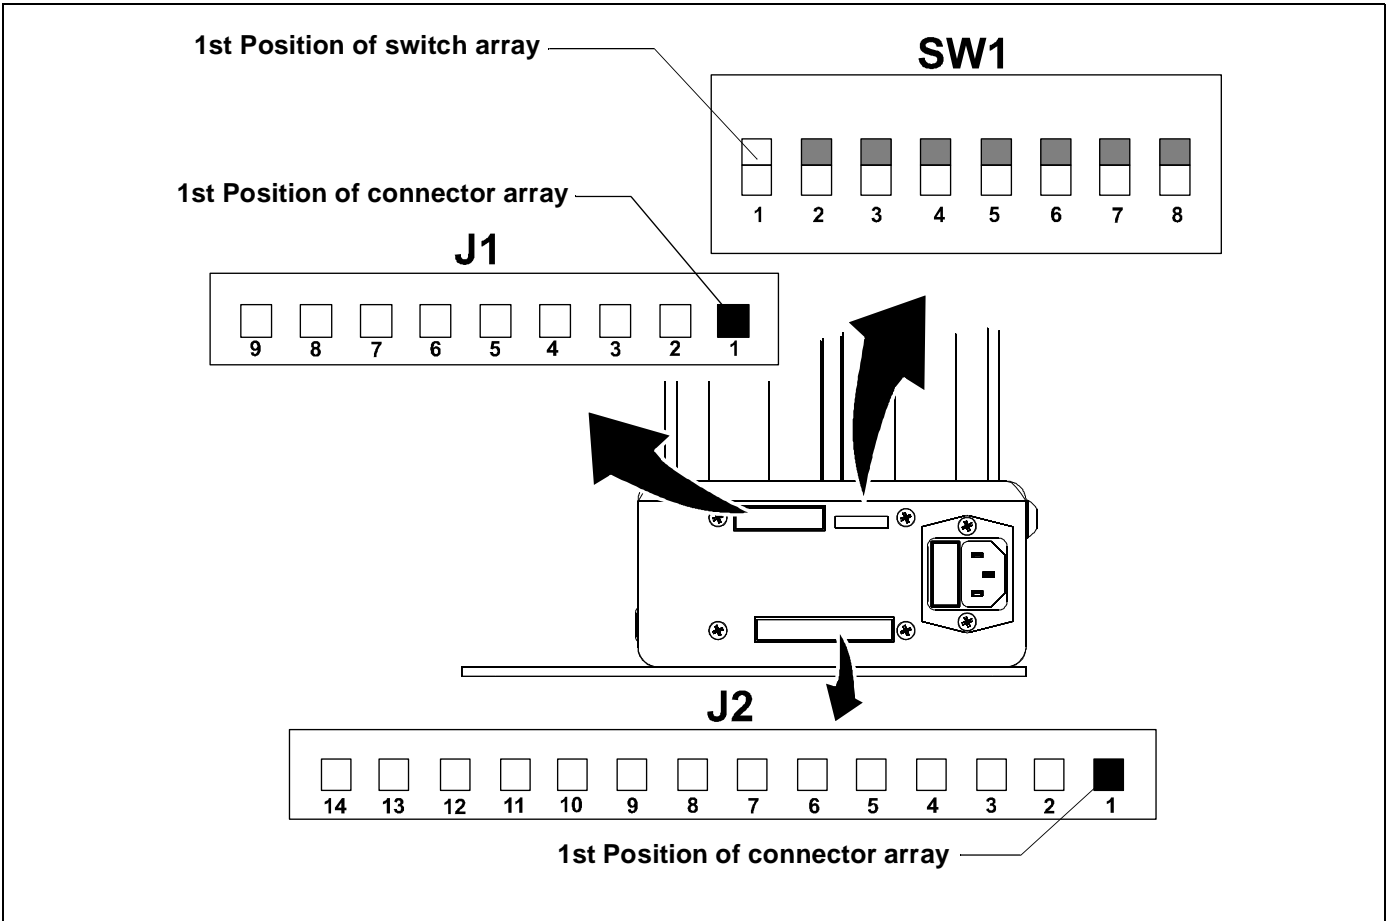
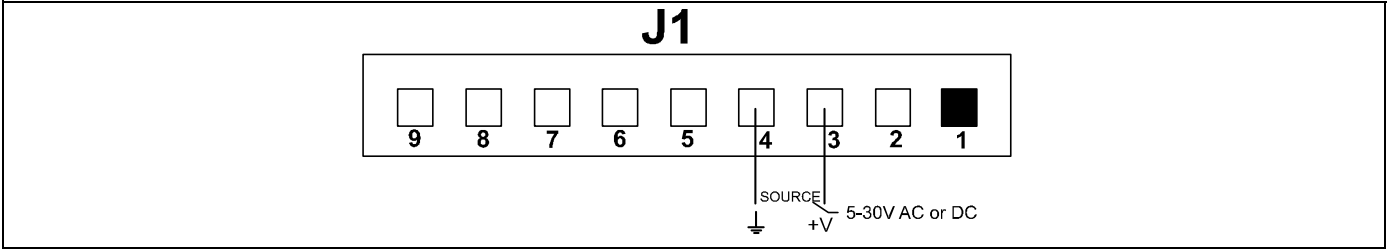
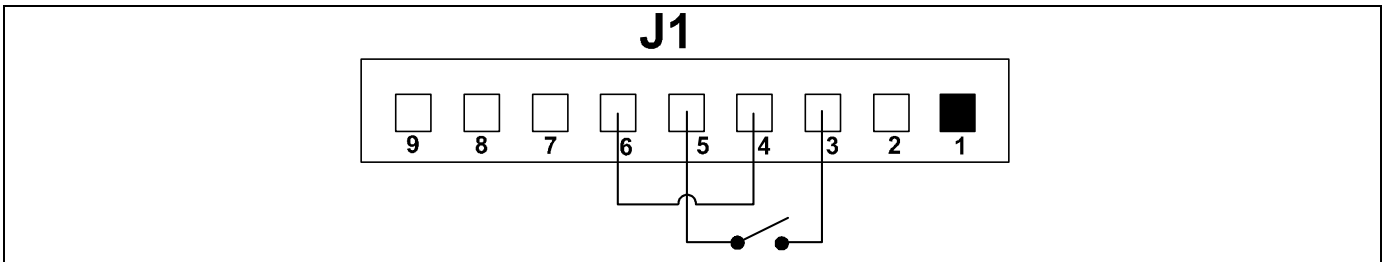
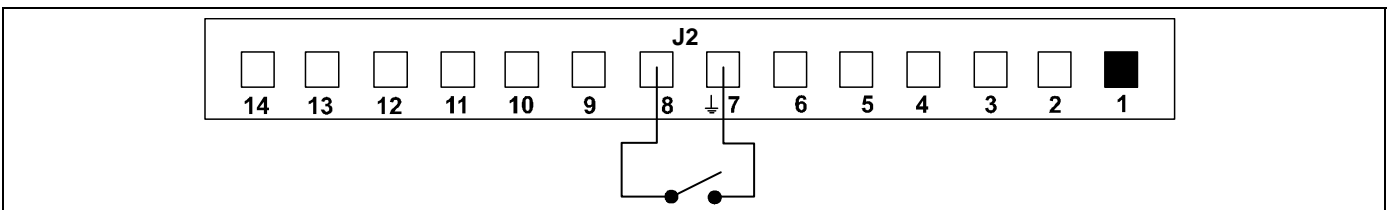

Figure 30
Figure 33
Figure 34
Figure 35
(See figure 30)
Using 9 pin Connector. (See figure 30) and (See figure 32)
Unit extends and stays extended when voltage from an external source is applied across pins 3 and 4 on connector J1. When voltage is removed unit retracts. (See figure 30) and (See figure 33)
**NOTE:** Using this input will force a complete UP/DOWN cycle of the unit. No other inputs, with the exception of error inputs, are available until the cycle has completed. (See figure 30) and (See figure 34)
(See figure 30) and (See figure 35)
(See figure 30) and (See figure 36)
(See figure 30) and (See figure 37)
(See figure 30) and (See figure 38)